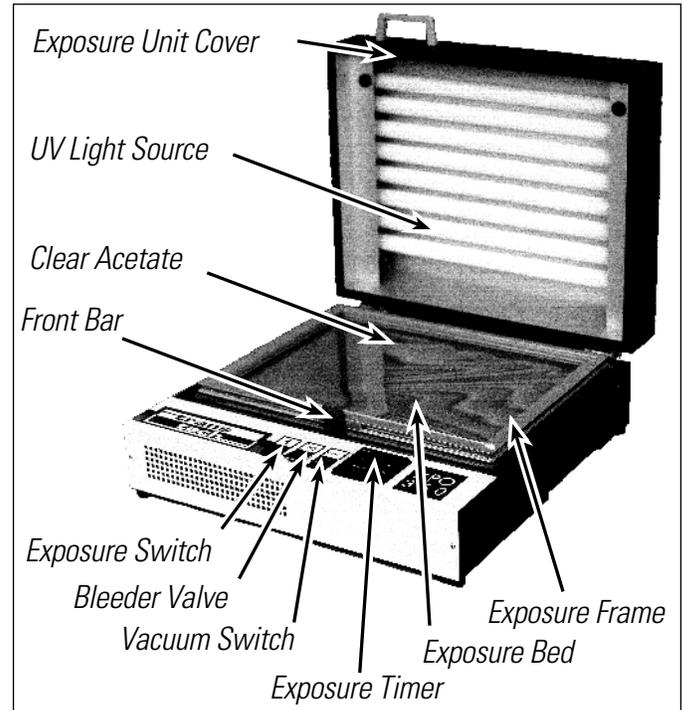

Figure 1. Trans Tech Exposure Unit Parts
3. Using only a recommended UV exposure unit, open exposure frame by lifting up front bar (see figure 1).